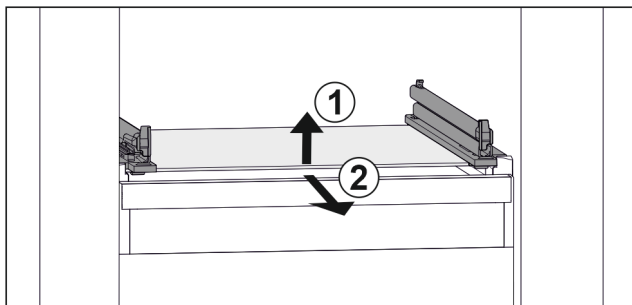

Fig. 108 Example illustration of glass shelf
- Lift glass shelf at the front. Fig. 108 (1)
- Take out glass shelf to the front. Fig. 108 (2)